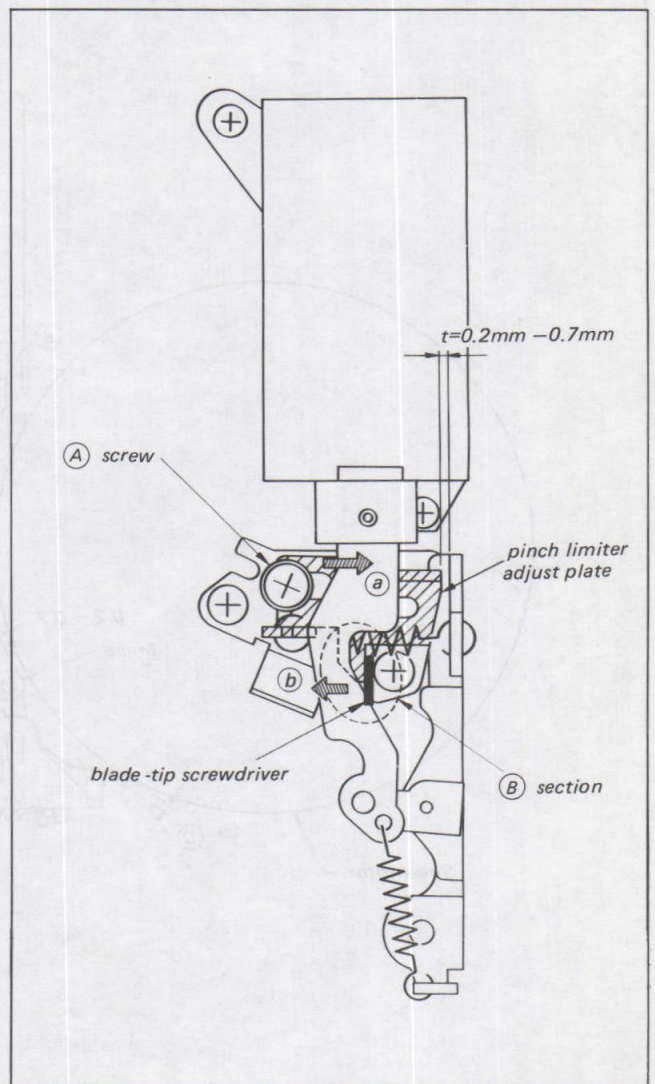

Fig. 3-18 Adjusting clearance of pinch crimp limiter
2. Check that the clearance 't' of the pinch closing limiter (Fig. 3-18) is 0.2 to 0.7 mm. If it is not, adjust as follows:
- 1) Loosen screw (A) in Fig. 3-18 with the pinch solenoid held in.
- 3) Push the pinch limiter adjust plate in the direction of arrow (b) as shown at section (B) using a blade-tip screwdriver, until the clearance 't' is 0.2 to 0.7 mm.
- 4) Tighten screw (A) and lock it.